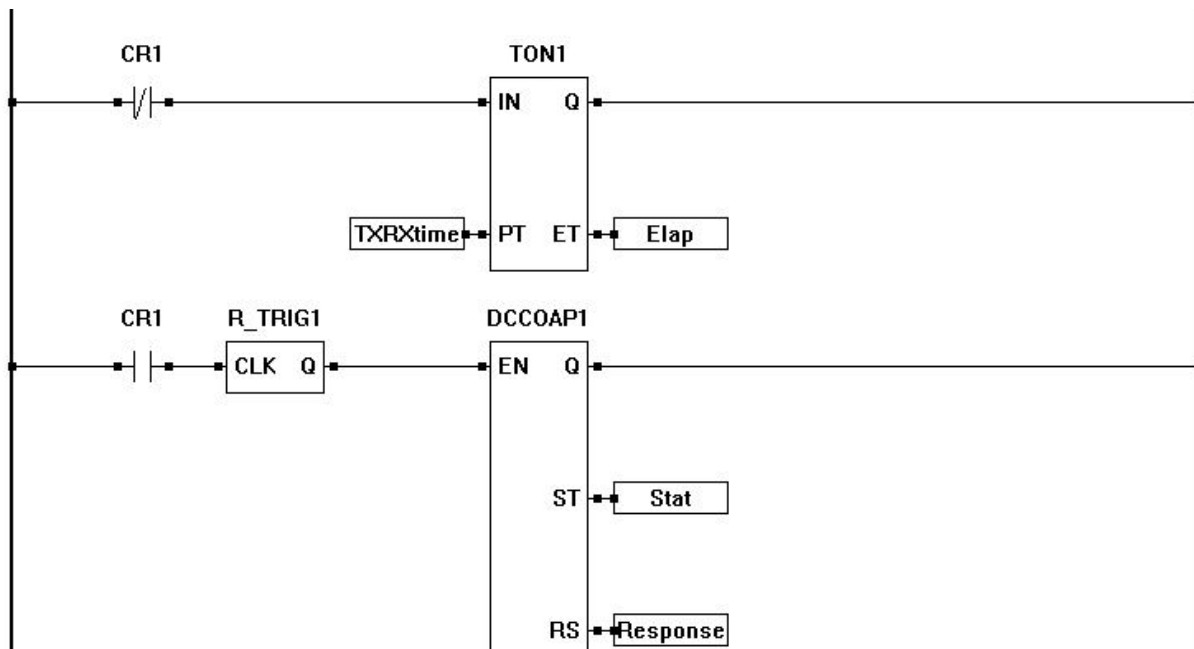

Figure 30-7
For a schedule send and receive based on time, the function's EN input can be controlled using an internal control relay (CR) that is being controlled using a timer. Figure 30-7 illustrates such ladder diagram circuit.